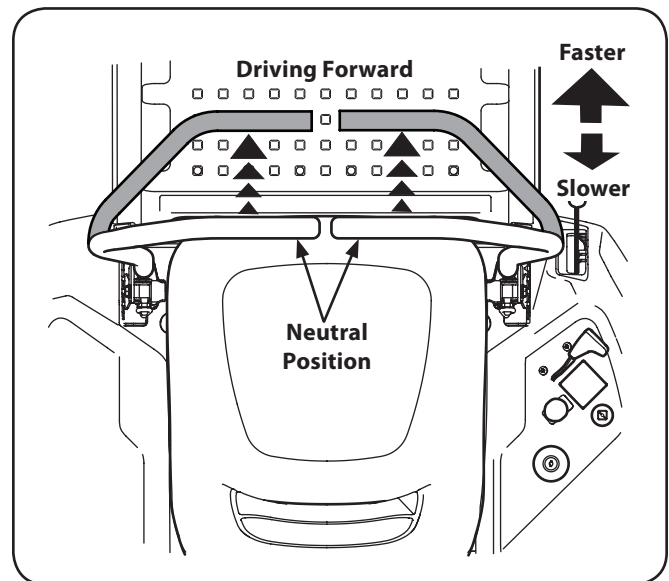

Figure 5-3
1. Slowly and evenly move both drive control levers forward. The tractor will start to move forward. See Fig. 5-3.